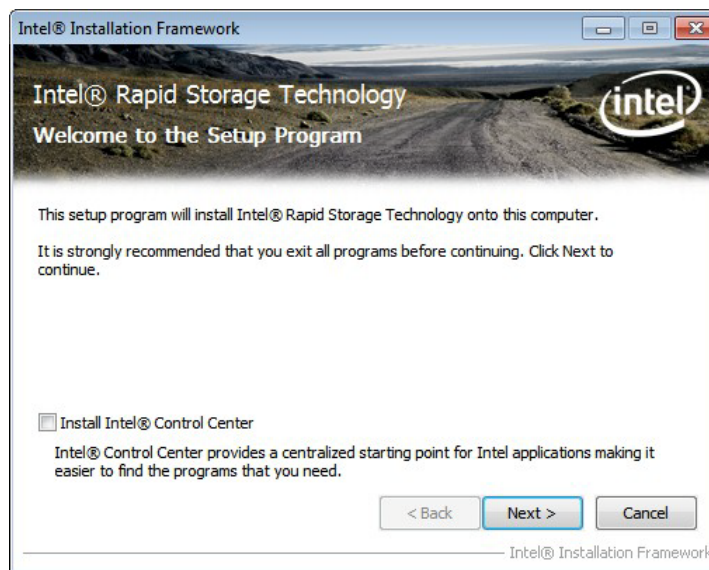

Figure 6-23: SATA RAID Driver Welcome Screen
Step 4: The **Welcome Screen** in **Figure 6-23** appears.